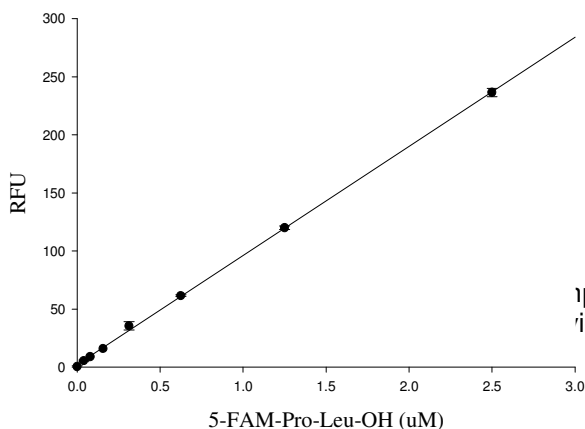

Figure 2. . 5-FAM-Pro-Leu-OH reference standard curve
- Plot 5-FAM fluorescence reference standard as RFU (relative fluorescence unit) versus concentration as in **Figure 2**.